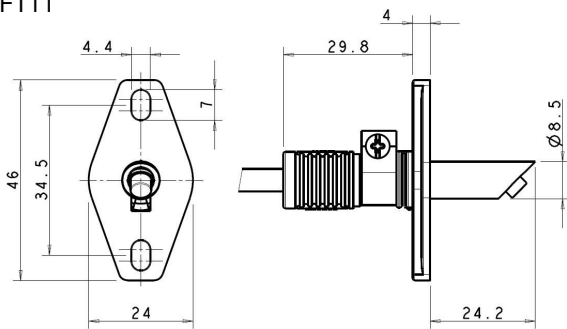
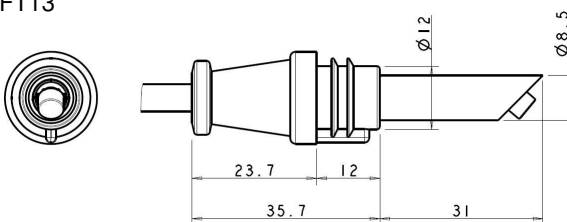

Figure 1
Figure 2
Figure 1 shows the phototransistor type FT11: the oblique position of the sensing element allows excellent sensitivity for both frontal and lateral light source. The same construction principle characterizes also the FT13 shown in figure 2.
- X 11:** Phototransistor type FT11 (fig 1 and 3)
- 13:** Phototransistor type FT13 (fig 2 and 4)
- Z** **No letter:** FT bent at 45° (fig 1 and 2)